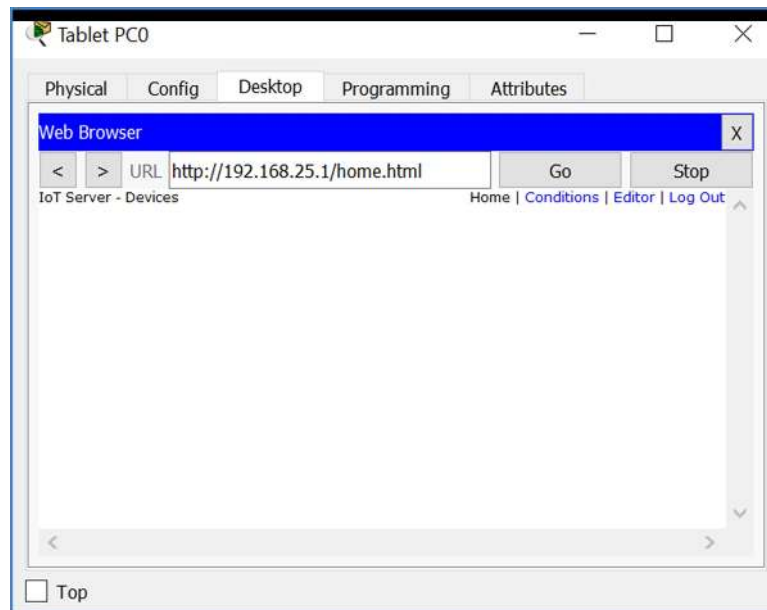

Figure 8.10: Home Gateway Login from the Tablet's Web Browser
- At the login screen (Figure 8.10), enter the default credentials `admin / admin`, then click *Submit*.